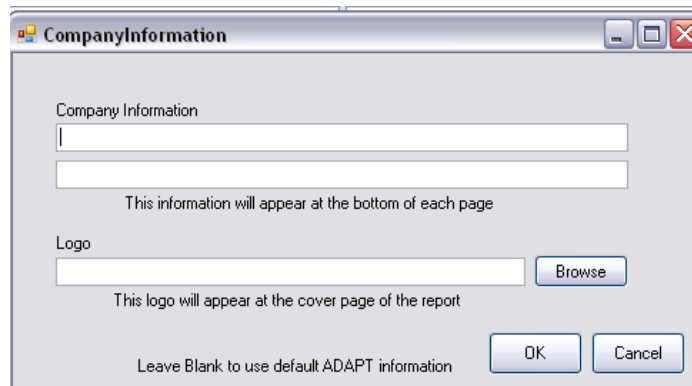

FIGURE 2.3-2
- Report cover: Select this option to generate a report cover with your logo and company information. To update your company information, click on **Update Company Info** on the *Report Generator* and you will see the screen **Company Information** shown in **Figure 2.3-2**.